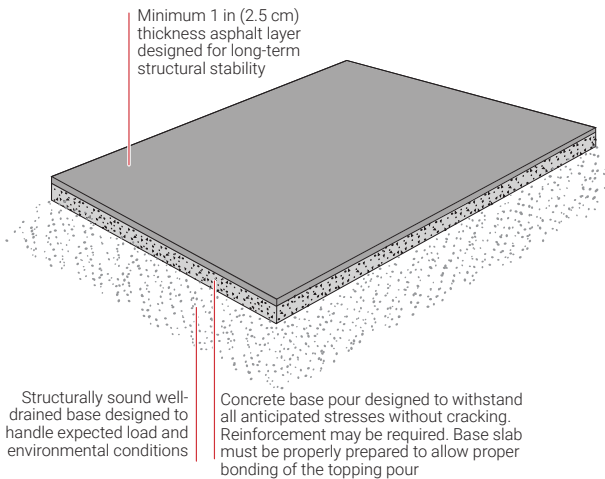

Figure 17: Asphalt installation with concrete base
**Concrete base:** Clean the concrete base slab. The surface of the base slab must be properly cleaned and prepared to allow the asphalt to bond to the base slab. Use an appropriate method for proper bonding or consult with the structural engineer. Next, place a layer of asphalt 1 in (2.5 cm) thick over the well cleaned concrete base prior to laying out the cables (see Figure 17). Do not install the heating cables directly on the concrete base.